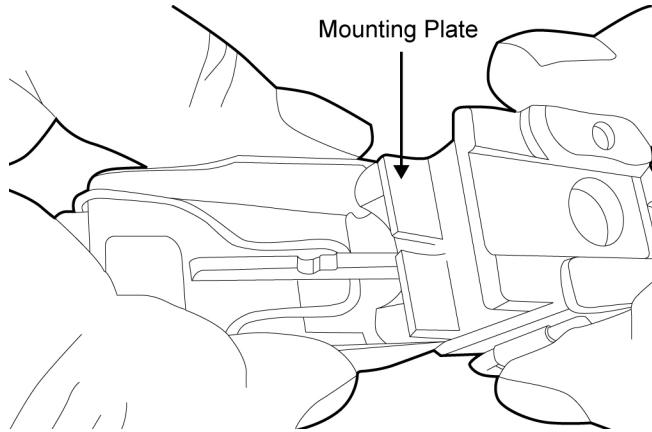

Figure 38. Removing the Mounting Plate.
b. Pull the mounting plate down and off of the side folding buttstock. Refer to Figure 38.